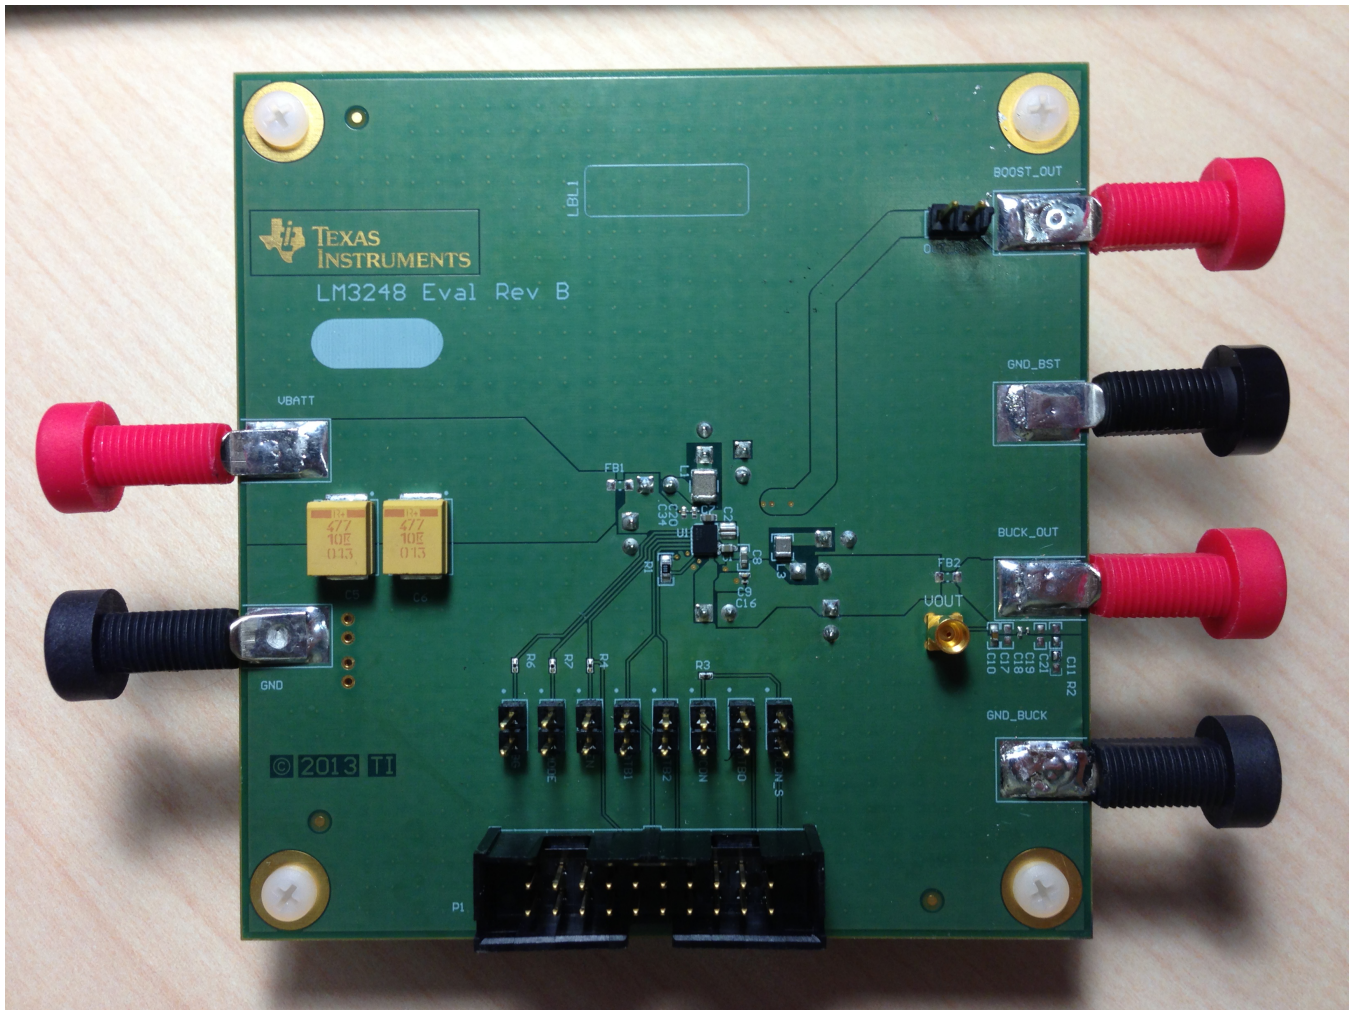

Figure 1. LM3248 Evaluation Board
**NOTE:** All of the control signals (BOOST\_GATE (“BG”), MODE, ENABLE (“EN”) and VCON) can be accessed on the bank of test access points just above connector P1, as shown in Figure 1. The pins next to each of the silkscreened signal names are all grounded, with the exception of the one labeled “VCON\_S.” The pins with silkscreened dots indicate the active signal pins.